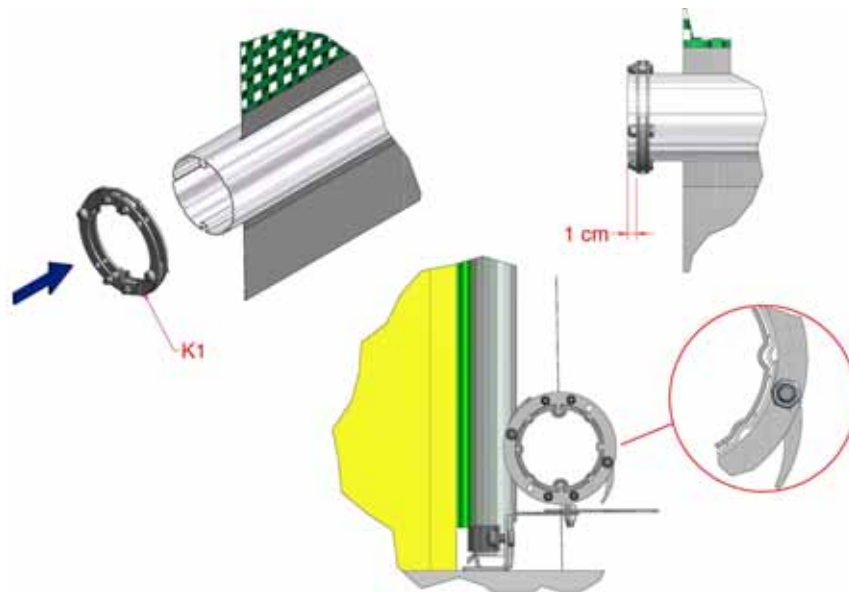

Figure 15a, Safety Clutch
- 4.2 Slide the Safety Clutch (K1) onto the drive end of the Bottom Rolling Tube with the locating lugs aligned with the flutes in the tube and the direction of rotation as shown in Figure 15a (the safety pawls must open as shown).